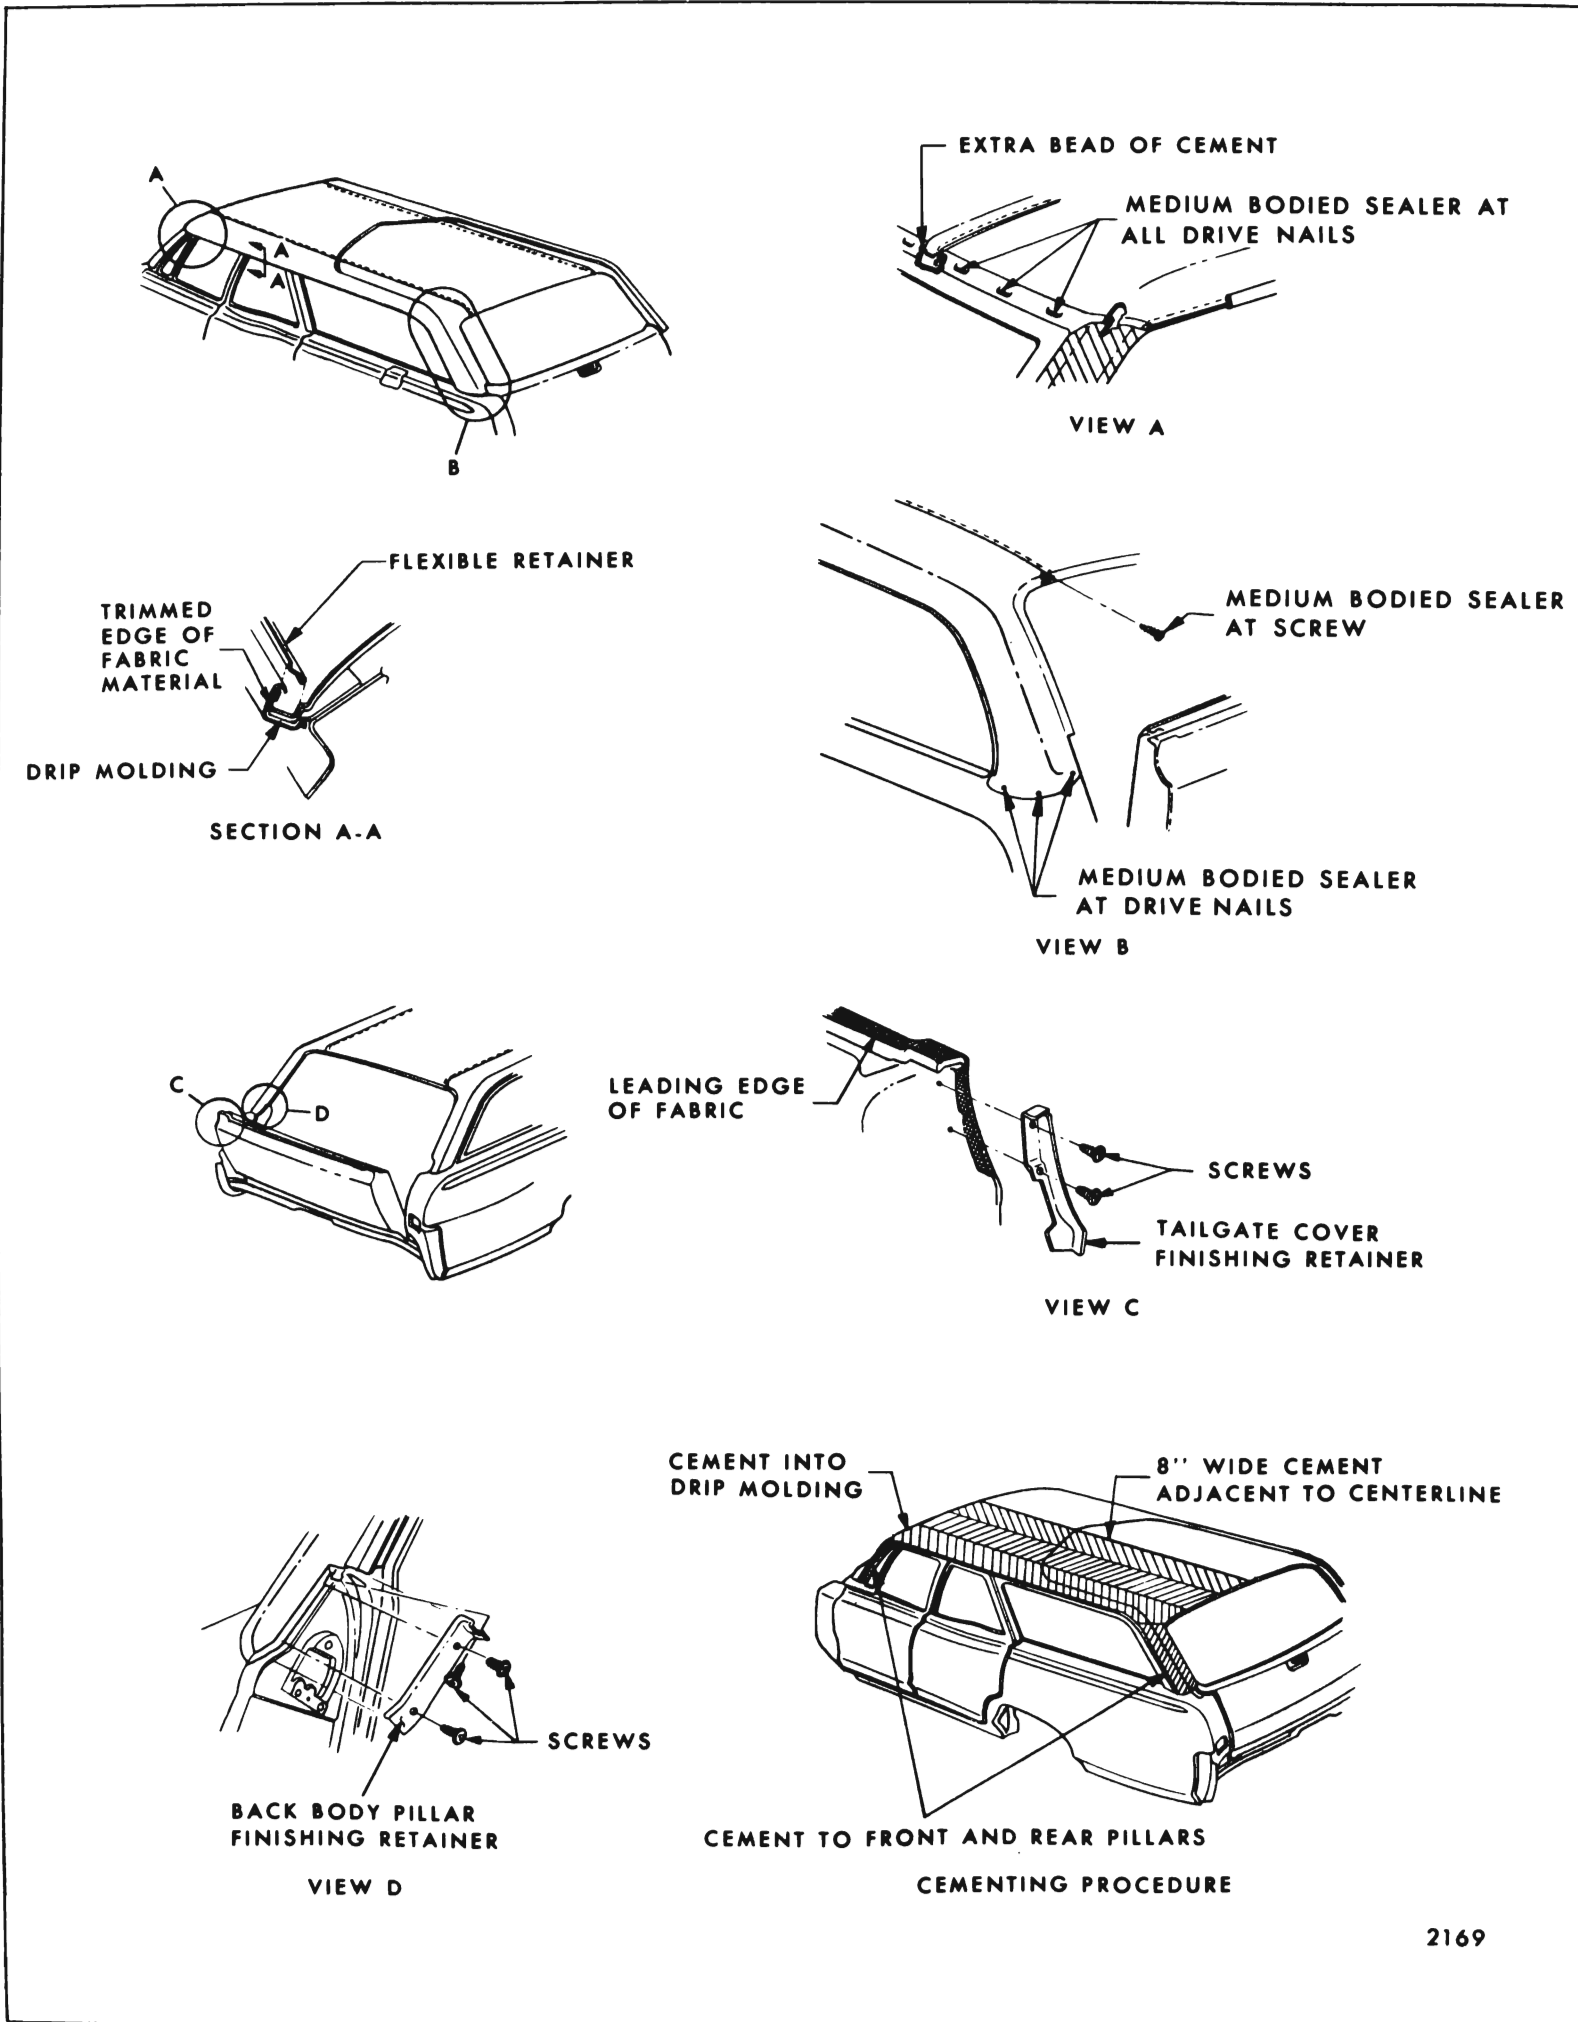

Fig. 5-6—Fabric Roof Cover Installation - Station Wagon Styles
4. Remove flexible retainers securing fabric cover inside right and left drip moldings. (See Section A-A, Fig. 5-6). The retainers may be removed by inserting tip of screwdriver or similar tool under retainer at front of drip molding. While exerting slight outward force on drip molding with pliers, disengage fingers of retainer from drip molding flange. **DO NOT DAMAGE DRIP MOLDING.**
15. Using fabric cover trimming tool (J-21092), or suitable small knife, trim fabric cover just under lip of roof drip molding (Section A-A, Figure 5-6). A tool may be fabricated to trim material along roof drip rail moldings as illustrated in Figure 5-2.
- d. Position fabric to top leading edge of tail gate panel and work material down to molding attaching holes. (See View "C", Fig. 5-6).
- f. Trim off excess material on tail gate flange. (View "C", Fig. 5-6).